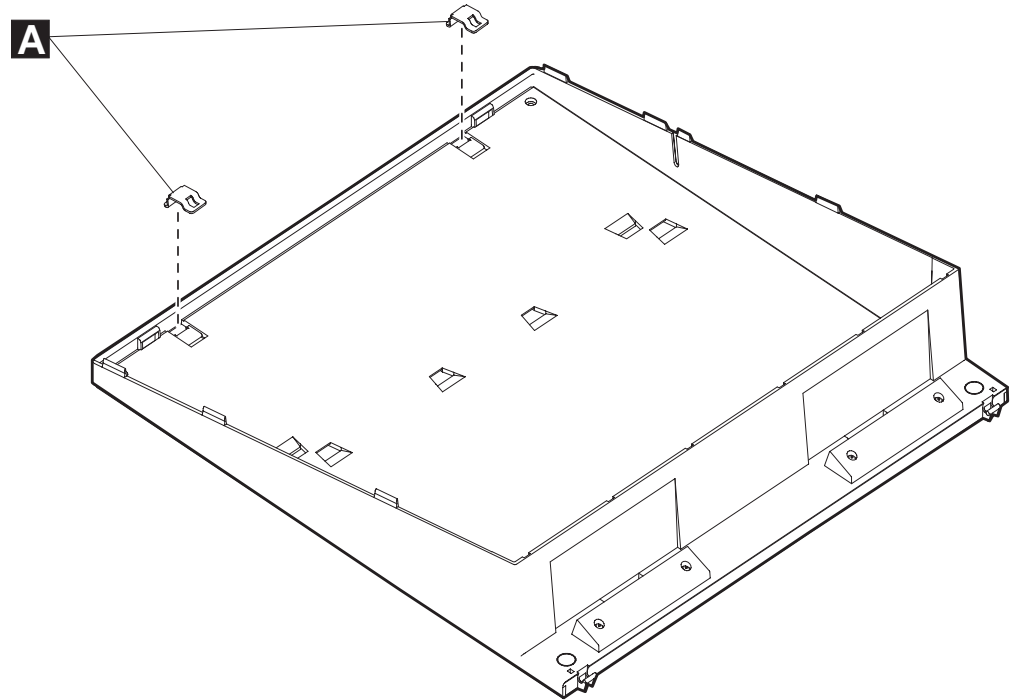

Figure 30. Installing two mounting tabs into the slanted I/O tray
1. Install the two mounting clips ( **A** in Figure 30) into the slanted I/O tray. From the inside of the I/O tray, insert the back of the mounting clip first and push the front part into the opening.